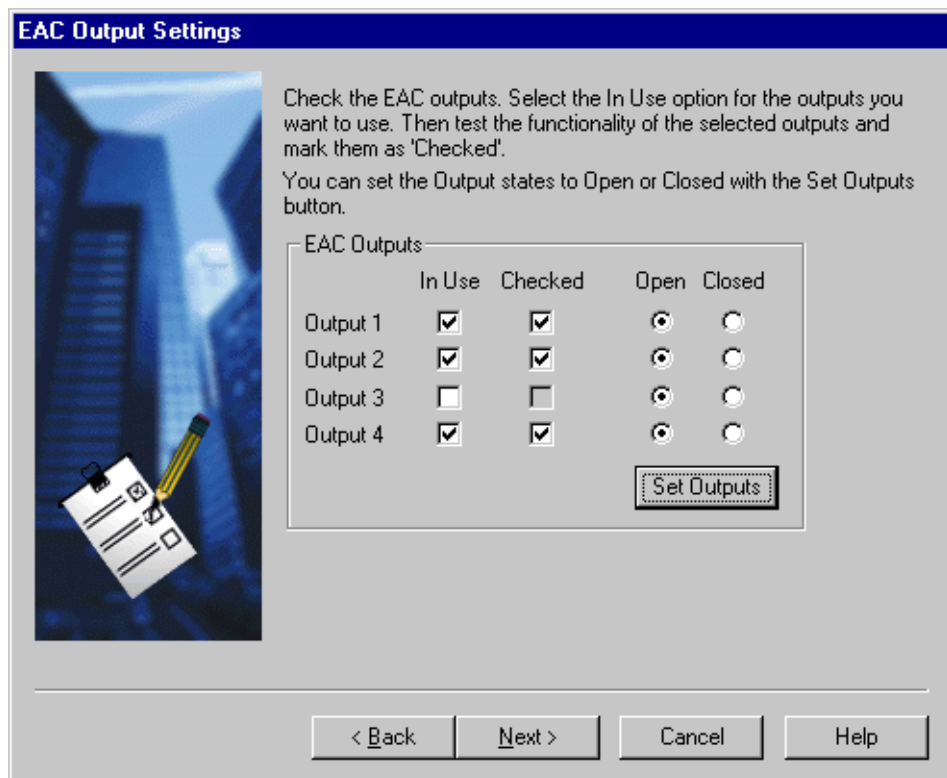

Figure 11. Setting and testing EAC outputs in real time
10. On the *EAC Output Settings* wizard page (Figure 11), test the required EAC outputs by ticking the 'In use' check box and testing the functionality of the outputs in real time. Mark tested outputs as 'Checked'.